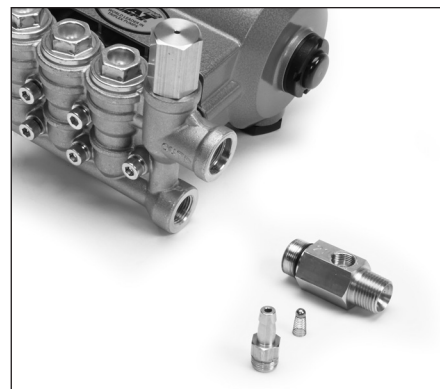

Figure 18
4. Use a M22 hex tool to remove chemical injector from unloader/manifold body (See Figure 18).